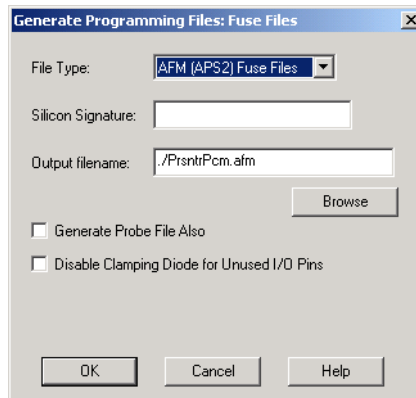

Figure 2-29. Generate Fuse File Dialog Box
1. **In the Tools menu, click *Fuse* or click the Fuse button in the Design Flow window.** This displays the Generate Fuse file dialog box (Figure 2-29).